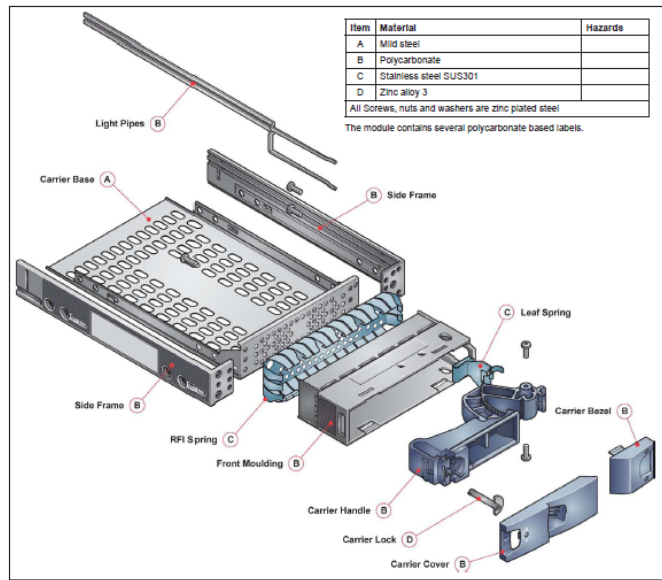

Figure 6: Exploded View of Drive Carrier Module
- Using drills and screwdrivers as appropriate to remove rivets and screws, dismantle the Drive Carrier Module as indicated in Figure 6.